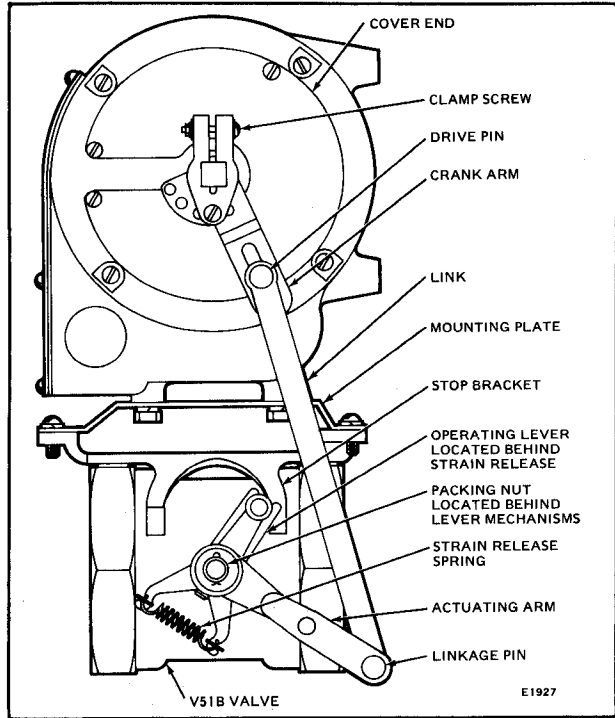
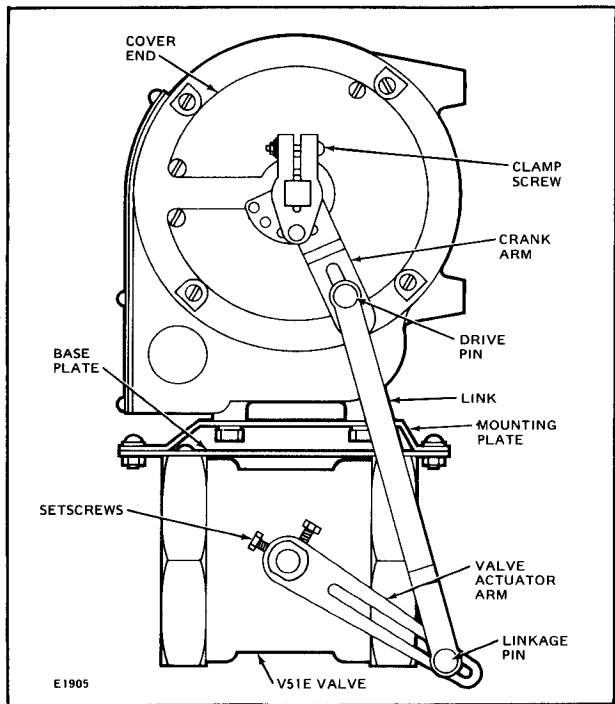

FIG. 3—Q100C LINKAGE ASSEMBLY (V51B).
FIG. 4—Q100C LINKAGE ASSEMBLY (V51E).
CONNECTING ACTIONATOR MOTOR AND V51B,E VALVES USING Q100C LINKAGE (See Fig. 3 & Fig. 4)
3. Install crankarm to motor as shown in Fig. 3. With the crankarm tight against the shoulder of the motor shaft, tighten the clamp screw securely.